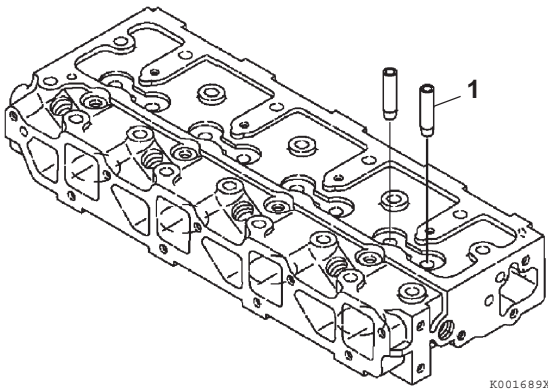

Figure 6-27
2. Immediately after removing the valve guides from the freezer, insert the valve guides (**Figure 6-27, (1)**) in their proper positions.